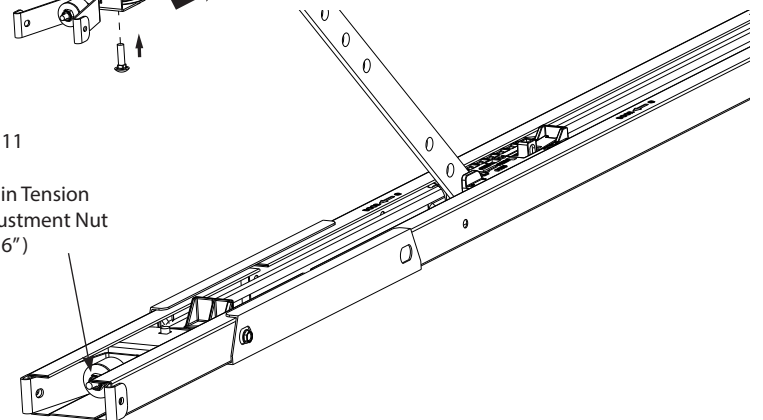

Fig. 12
15. On the other end of the rail, slide the drive sprocket assembly to adjust its position until the tabs rest in the slots in the rail end. Insert two mounting screws and tighten with a 1/4" wrench or socket. Fig. 12.